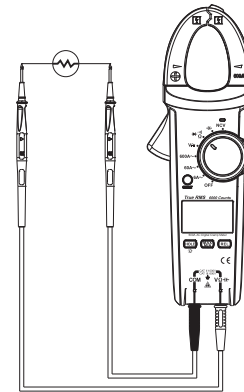

Figure 7
5. Continuity Test (see Figure 7)